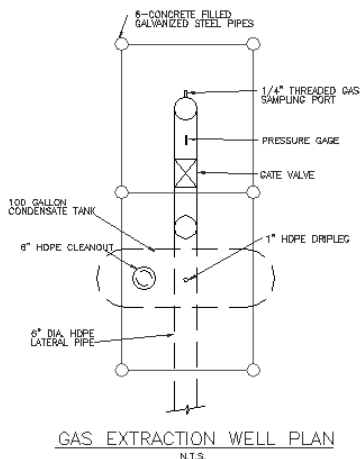

Figure 11-13: The completed drawing.
14. Save your drawing. It should look like Figure 11-13.